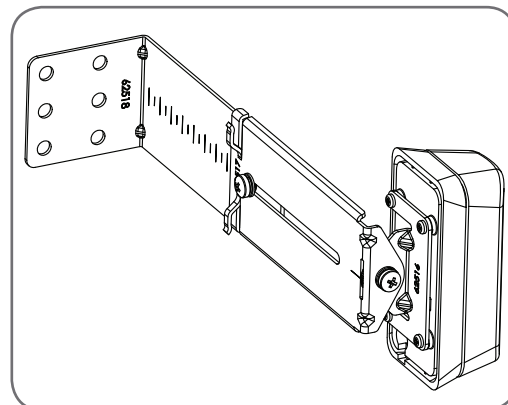

fig 46
- Make horizontal and/or vertical (Fig. 46) adjustment on the transmitter and/or receiver until the red LED turns off on the receiver, indicating alignment.